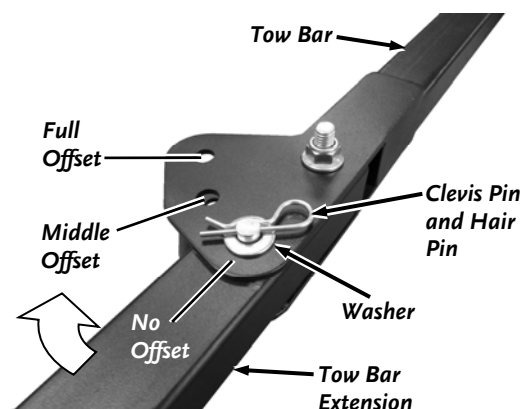

Figure 22
1. Remove the Hair Pin, Washer, and Clevis Pin that secures the Tow Bar Extension to the Tow Bar (**Figure 22**).